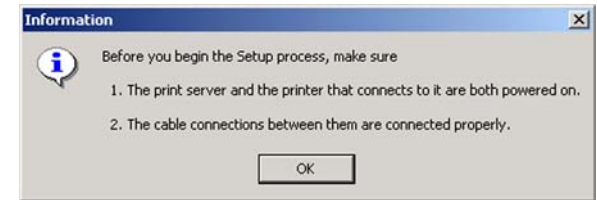

Figure 5-7: TCP/IP
- The Information screen appears next. See Figure 5-7. Read the information, then click **OK**.